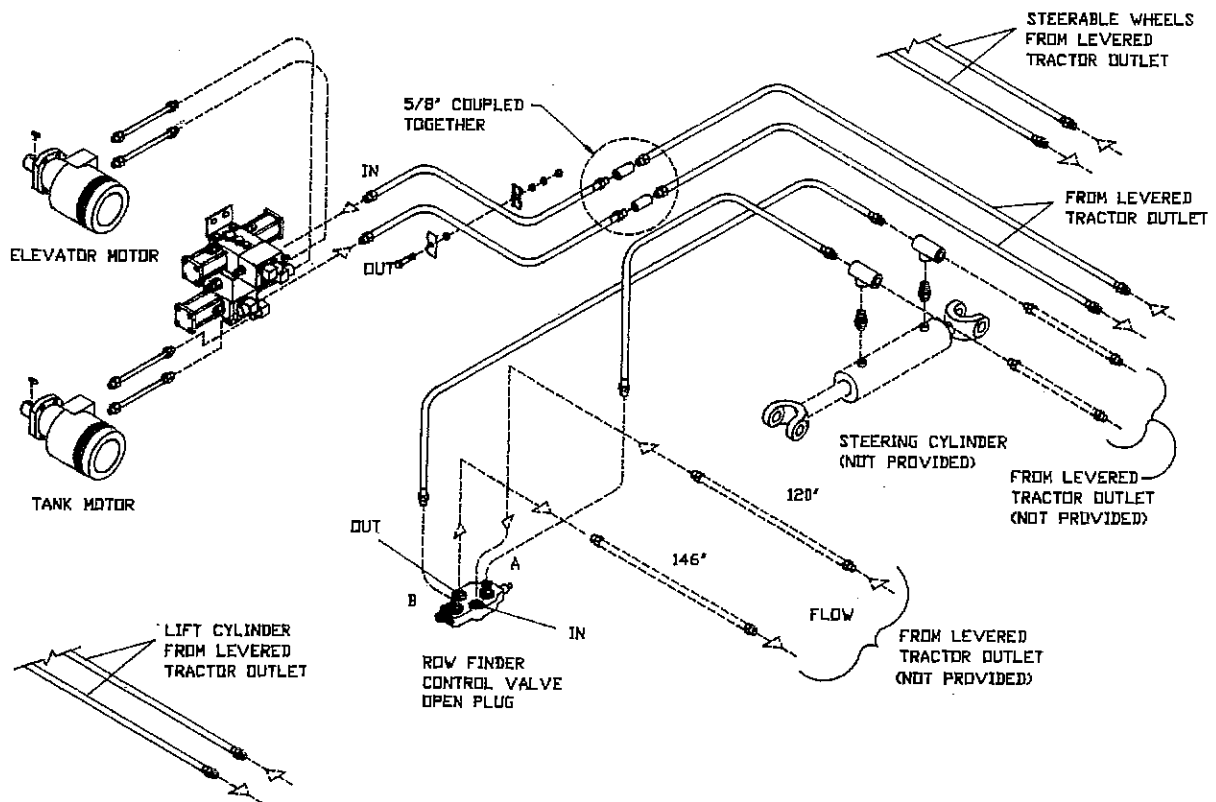

FIGURE 64 - PFC SYSTEM
If no row finder is used, plug the elevator and chain valve block directly into the tractor remote. No flow divider is required. (See Figure 64, page 41).
Tractors with Five (5) Remotes (See Figure 64)
Tractors with Four (4) Remotes (See Figure 64)